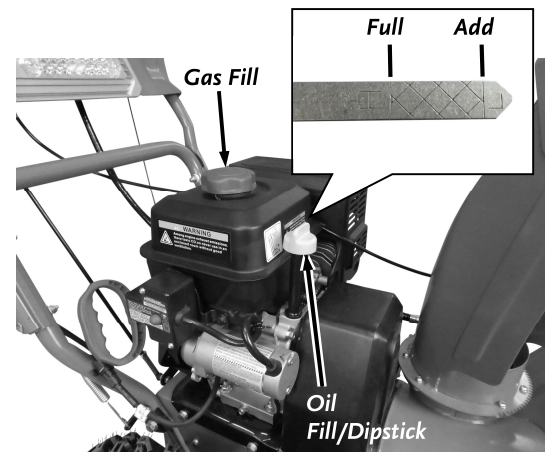

Figure 23
1. Position the machine so the Frame and Engine are level. Remove the Oil Fill/Dipstick (**Figure 23**) and clean the end of it with a rag.